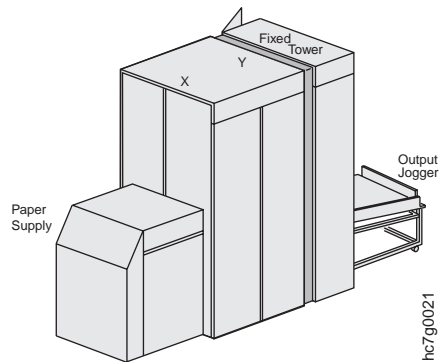

Figure 115. Right Side View of the InfoPrint Color 100
1. Open the fixed tower door on the left side of the machine, as shown in Figure 115 on page 111.